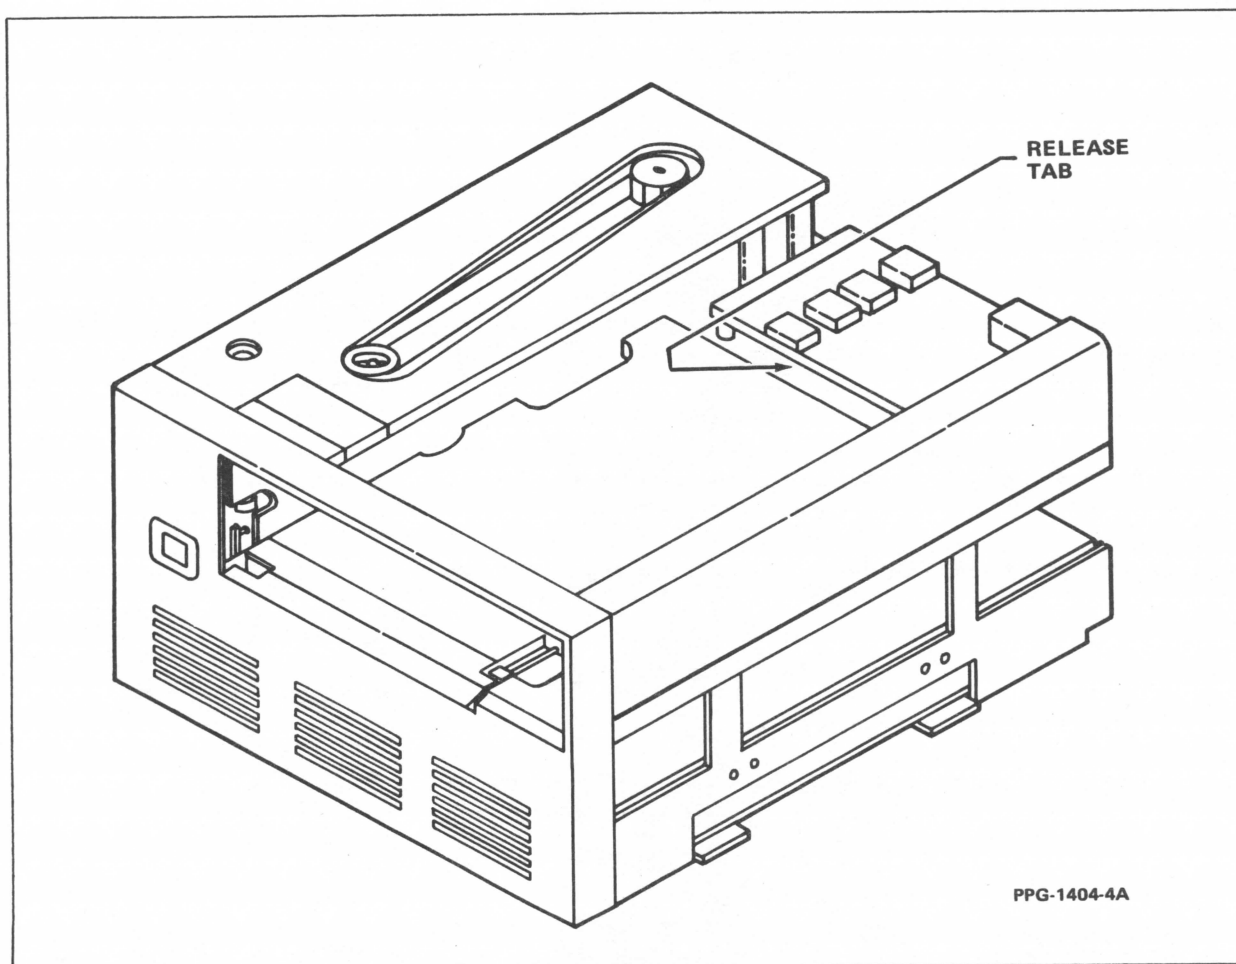

Figure 6-1. Tape Cartridge Drive Release Tab
3. Release the head by pressing the release tab in all the way, using the eraser end of a pencil (or other suitable device). You must push the release tab in until the mechanism is released and the tape cartridge bed is moved out from the drive. Refer to figure 6-1 for an illustration showing the location of the release tab.